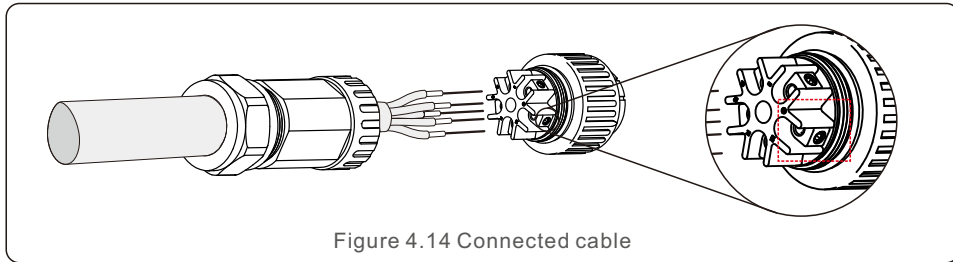

Figure 4.14 Connected cable
A) Stripped the insulation sleeve of cable for 70mm, so that bared copper-cored connector reaches for 13mm. Cable through nut and sleeve of socket element, insert corresponding terminals and tighten with allen wrench (see figure 4.14). Torque is 1.5-2.5Nm.
Tighten cable with 3 mm allen wrench (focus in dotted box, see figure 4.14). Allen screw is easy to drop off, don't screw out completely.